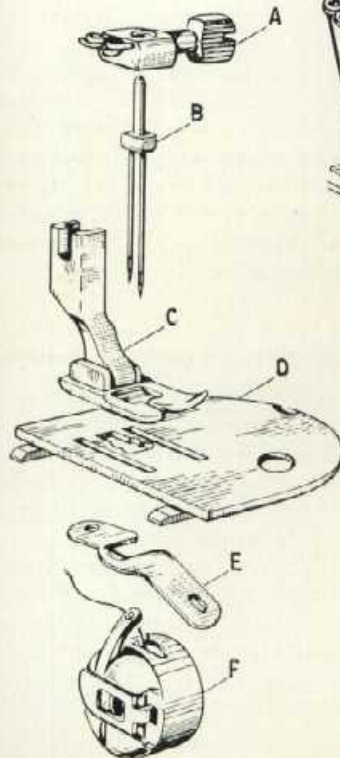

Fig. 107
- 1) Insert Double Needle (Fig. 107-B) in the same manner as the regular single needle. Bring needle bar to its highest position by turning balance wheel toward you, then loosen needle clamp screw, remove single needle and insert Double Needle (with flat side of shank toward the right) into groove of needle bar. Push Double Needle up into clamp, as far as it will go, then tighten needle clamp screw firmly. Do not bend needles when inserting them into needle bar.
- 2) Substitute regular hinged presser foot with hinged double needle presser foot (Fig. 107-C).
- 3) Substitute regular needle plate with needle plate for double needle (Fig. 107-D).
- 4) When sewing with the Double Needle, the lower thread, after having passed below the tension spring of the bobbin case, must go through the hole in the positioning finger of the bobbin case (Fig. 107-F).
The needle clamp (Fig. 107-A), the race cover plate (Fig. 107-E) and the bobbin case (Fig. 107-F) can also be used for sewing with a single needle only.